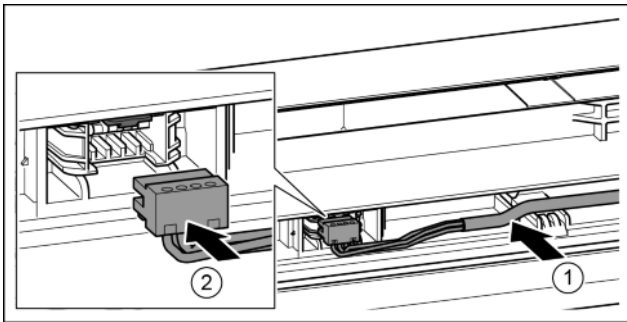

Fig. 35
- ▶ Insert the grey cable into the guide in the top door. Fig. 35 (1)
- ▶ Insert connector. Fig. 35 (2)